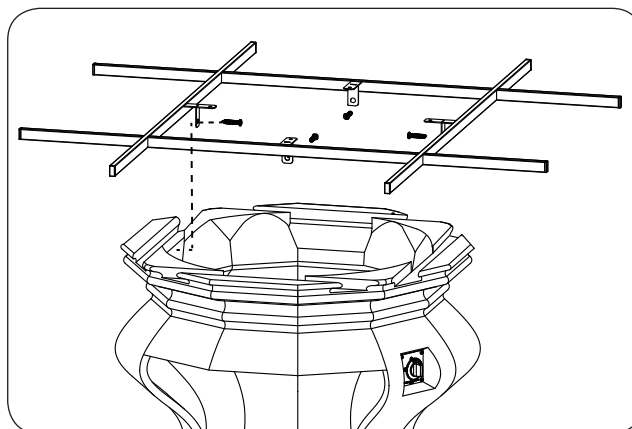

Fig. 19-2 Install bracket
3. Place the bracket in the grooves found on the top of the base. Then use a Phillips screwdriver and the supplied concrete screws (4) to fasten the bracket into the base as shown in Fig. 19-2.